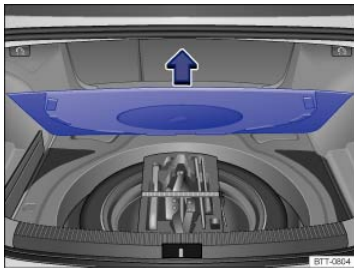

Fig. 191 In the luggage compartment under the floor panel: Compact spare wheel and vehicle tool kit.
The vehicle tool kit is in the luggage compartment in one of several places, such as under the luggage compartment floor panel ⇒ Fig. 191. It is secured with a strap and a strap lock.
- Grasp the floor panel by the handle and lift it up in the direction of the arrow ⇒ Fig. 191; remove it if necessary.